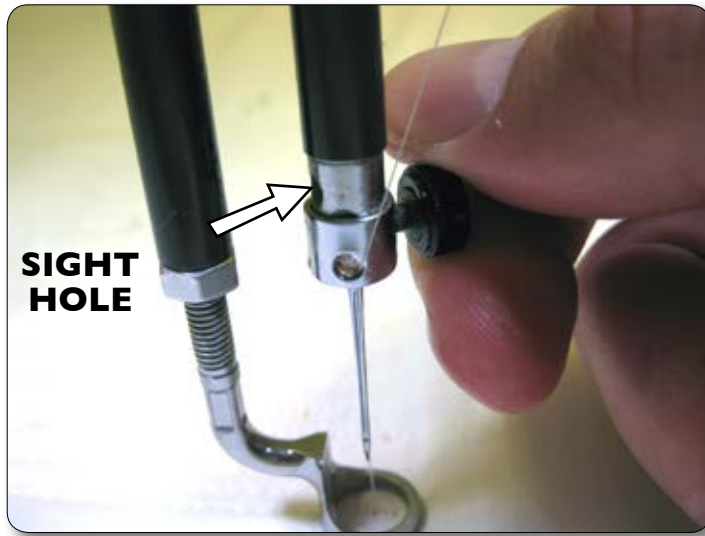

Figure 7
3. Loosen the needle-bar clamp thumb screw (see Figure 7) enough to assure that the needle can be inserted all the way up to the top of the sight hole.
4. With the scarf (small ground out section/dip on the back side of the needle just above the needle eye) facing the hand wheel end of the machine, and the long groove down the front of the needle facing the bobbin case side (see Figure 7), push the needle all the way up into the needle bar - until it can go no further. Look into the sight hole to verify that the butt of the needle reaches the top of the sight hole.